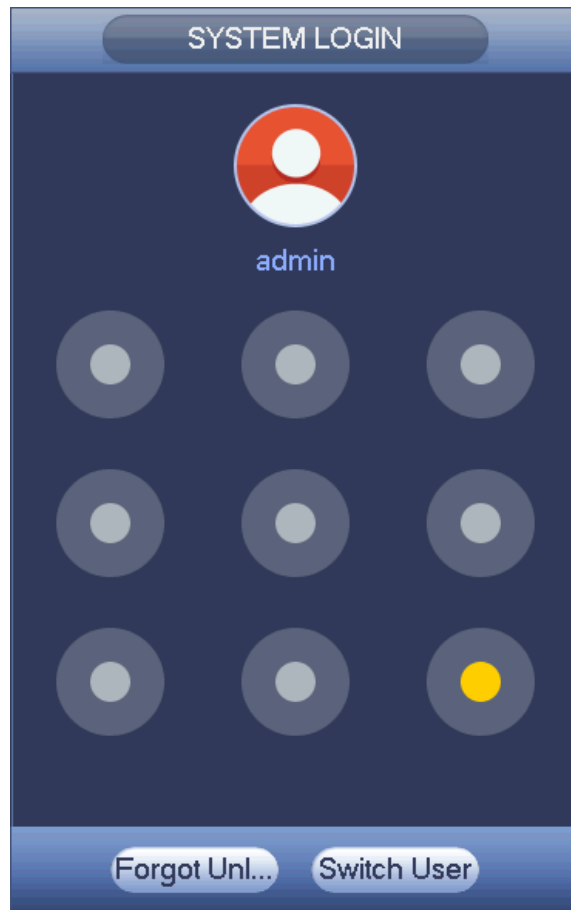
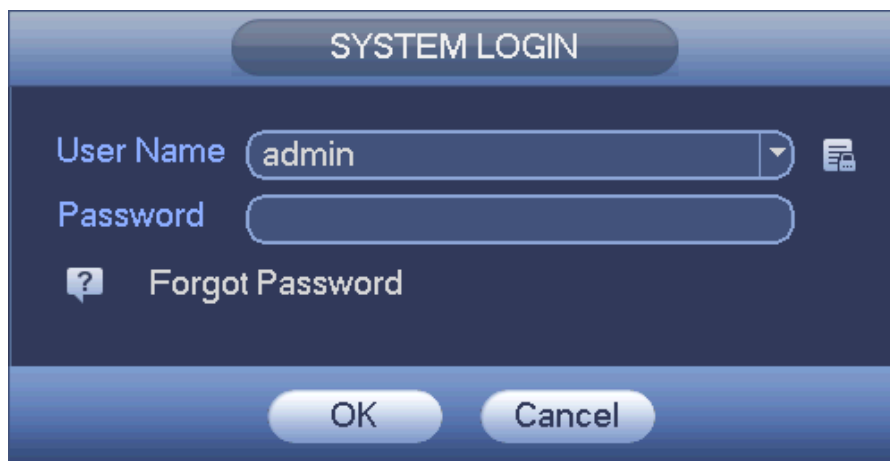

Figure 4-4
Figure 4-5
Step 1 Go to the device login interface. See Figure 4-4 or Figure 4-5. .
- If you have set unlock pattern, device displays unlock pattern login interface. See Figure 4-4. Click “Forgot unlock pattern”, device goes to Figure 4-5.
- If you have not set unlock pattern, device displays password interface. See Figure 4-5.
Click Switch user button in Figure 4-4 or click the user name in Figure 4-5 and then select a user from the dropdown list, you can login via other account.